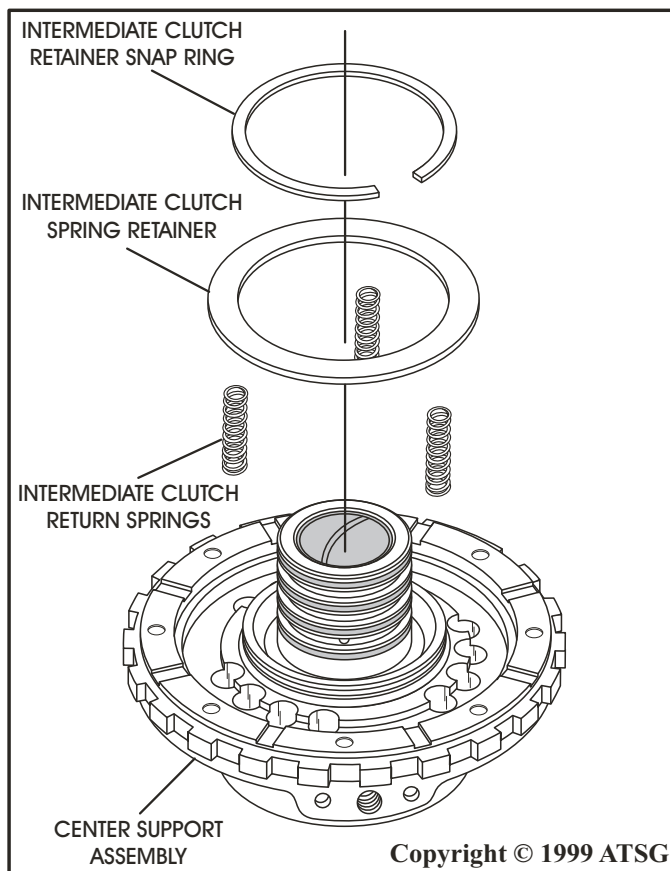

Figure 71
41. Install the return springs into the intermediate piston so that they are equally spaced around the piston (See Figure 71).
42. Install the intermediate clutch return spring retainer as shown in Figure 71.
43. Compress the spring retainer with proper spring compressor and install the snap ring using pair of snap ring pliers (See Figure 71).